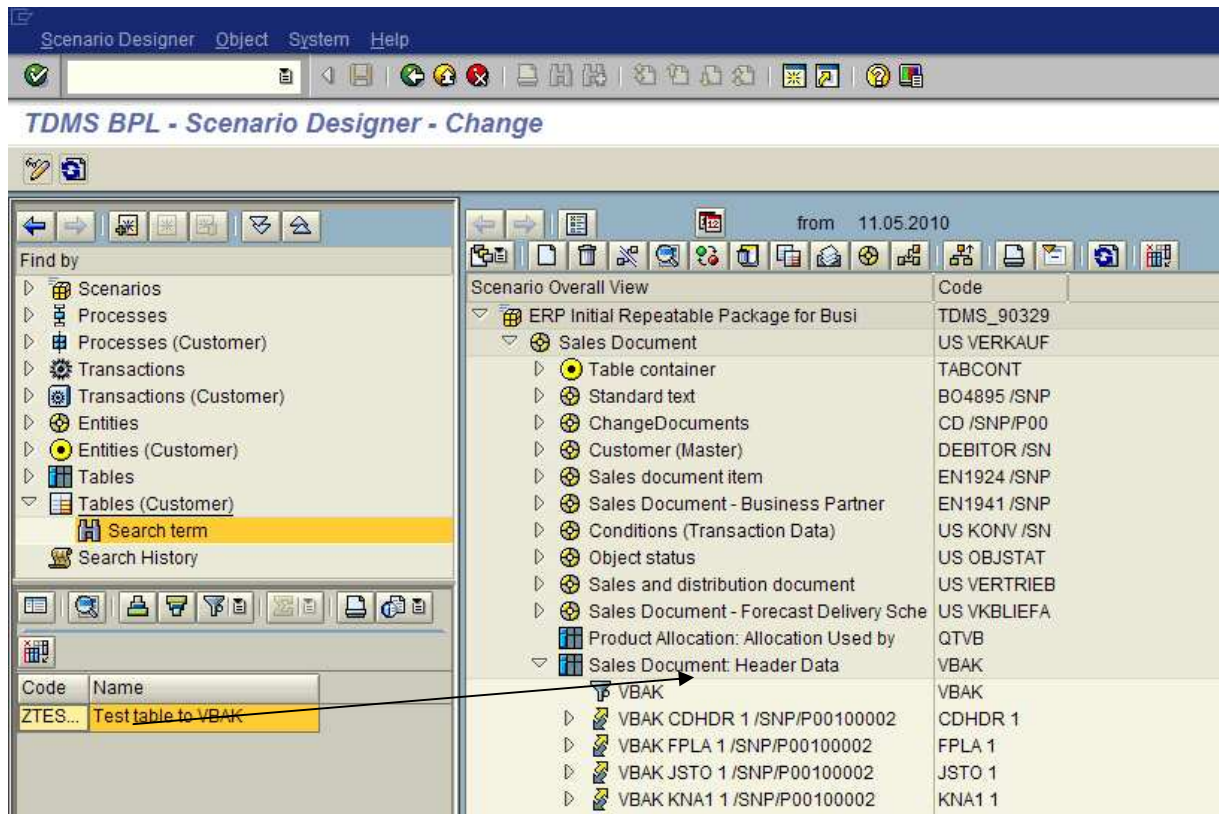
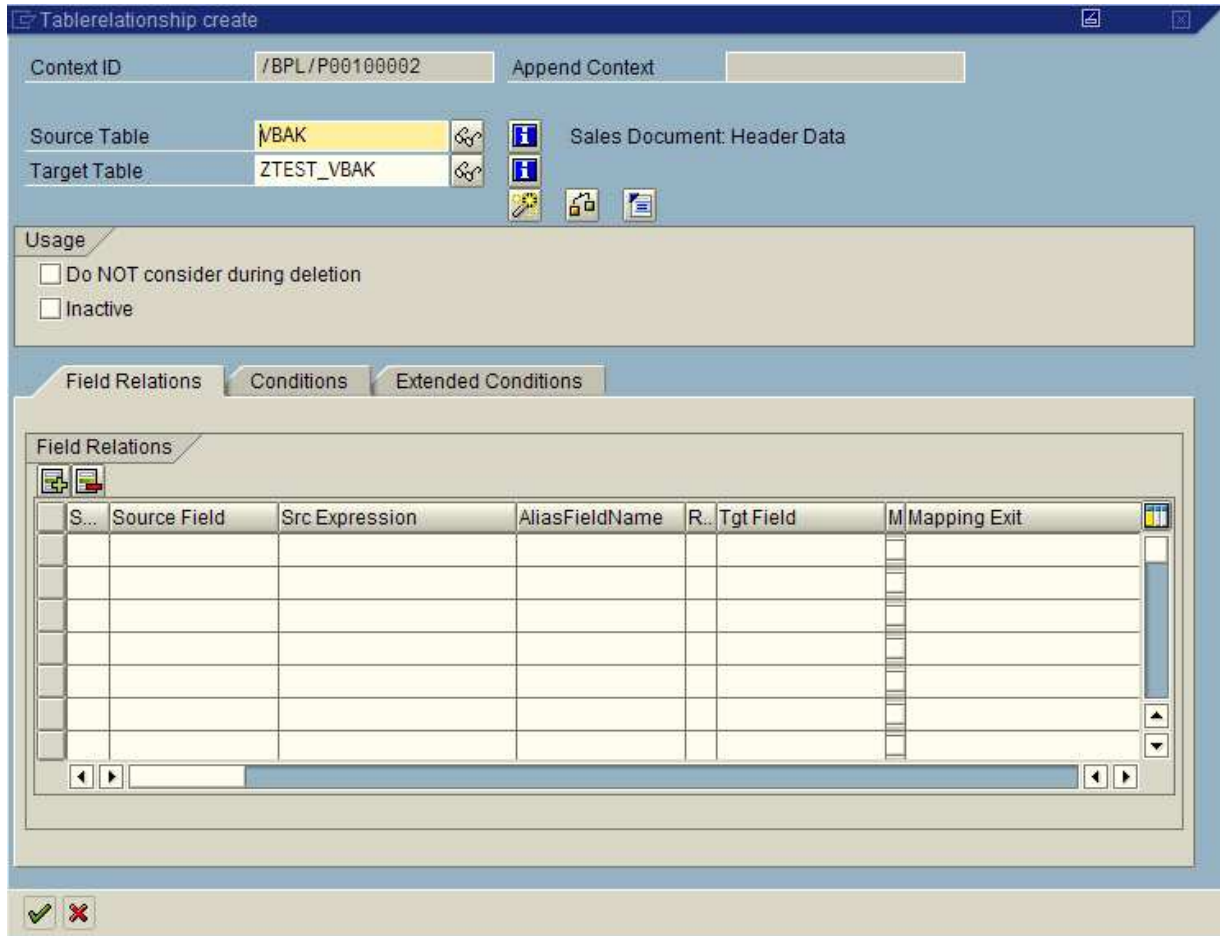

Figure 27: Move the dependent table from search result area to the source table in overview area via drag-and-drop
Figure 28: Table relationship popup
- The VBELN field is not only a primary key for the ZTEST_VBAK table but also for start table VBAK. So it makes sense to create a table relationship between these two tables with VBAK as source table and ZTEST_VBAK as target table (= dependent table). To create a table relationship, move the target table to the source table via drag-and-drop (see Figure 24). As an alternative to drag-and-drop within overview area, you can select for the dependent table in the search area and move the table from the search result area to the source table in overview area via drag-and-drop (see Figure 25, Figure 26, and Figure 27). In both cases, a table relationship popup opens (see Figure 28).